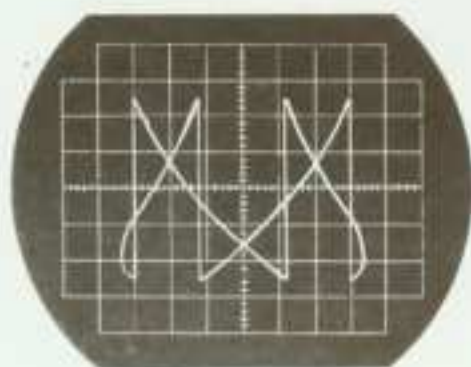

Fig. 19 Lissajous waveform
4. Adjust  $VR_1$  so that a Lissajous pattern is traced on the oscilloscope (Fig. 19).